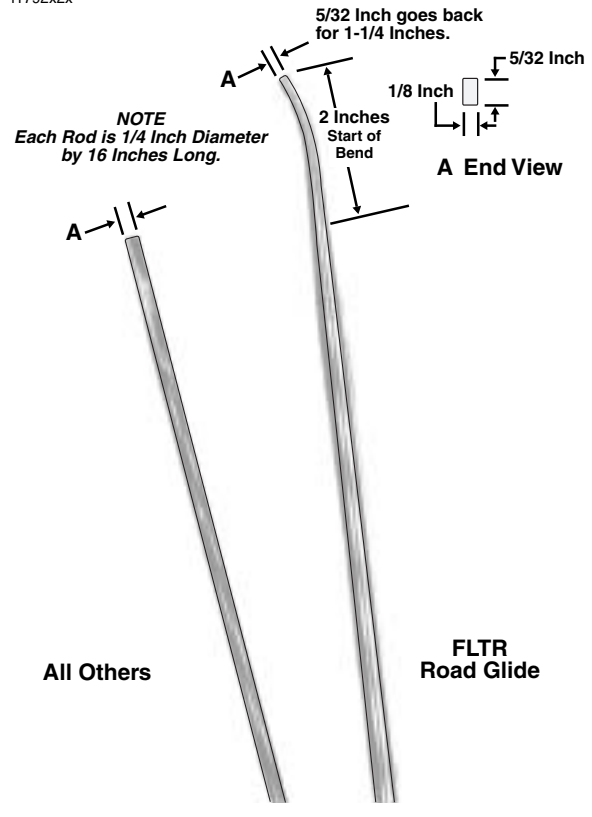

Figure 2-89. Fashion Steering Head Bearing Adjustment Tool From Drill Rod
4. Fashion a bearing adjuster tool using a drill rod 16 inches long. See lower frame of Figure 2-89.
4. Remove the bearing adjuster and fork stem assembly. See upper frame of **Figure 2-89**. Remove dust shield and bearing from top of steering head.